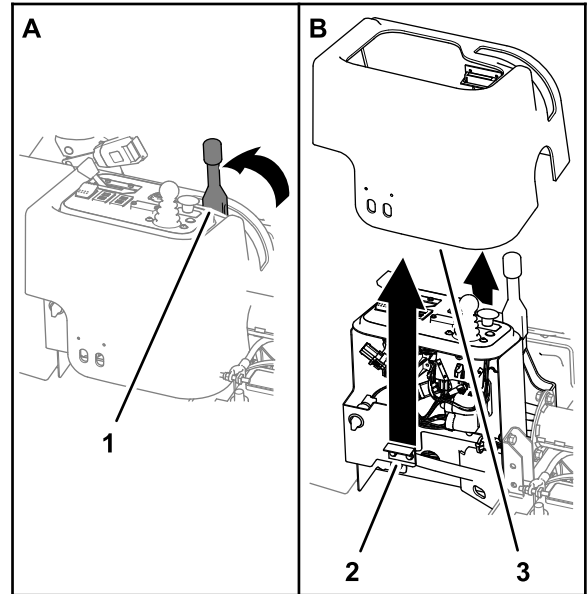

Figure 5
1. Ensure that the parking brake is engaged (Figure 5).
2. Pull up the console cover to free the magnetic catch of the cover from the strike bracket on the console support (Figure 5).